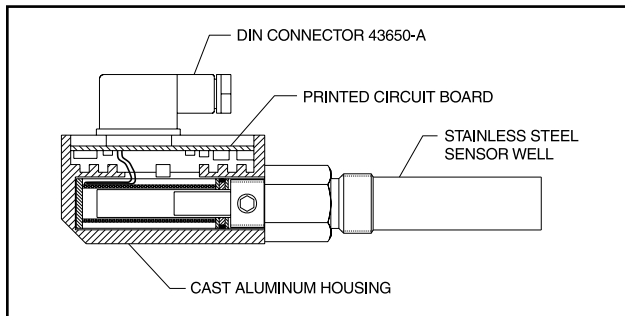
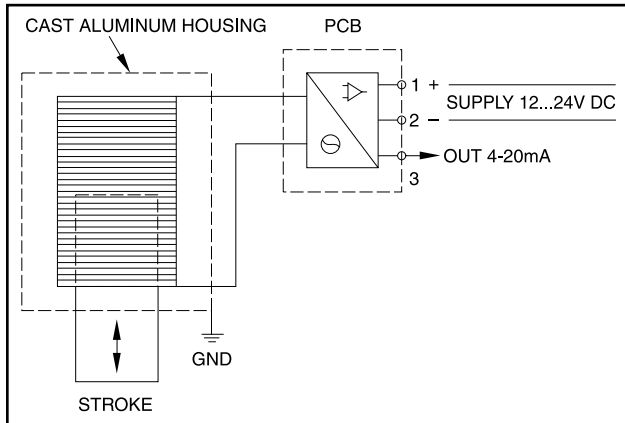

Figure 9 - Slide Valve Transmitter
Figure 10 - Wiring Diagram for Slide Valve Transmitter
The slide valve transmitter (Figure 9) measures the position of the slide valve (SV) and sends a 4 to 20mA signal to your control system. See Figure 10. The controller will adjust the position of the SV according to the motor load set point. The correct position is important to properly load the compressor and motor. It is important not to overload the compressor and motor. Observe the maximum power input and ensure design limitations are not exceeded. Connect to +/- and signal as shown in the wiring diagram, Figure 10. Refer to Frick compressor panel instructions for calibration procedure 090.040-O.